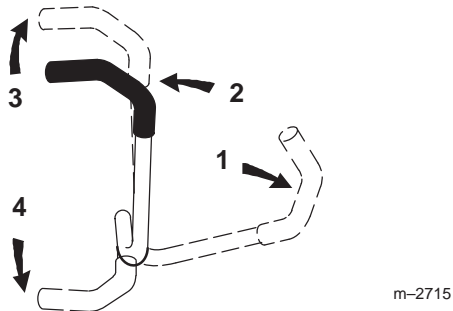

Figure 20
3. To go forward, slowly push the motion control levers forward (Fig. 20).
To go straight, apply equal pressure to both motion control levers (Fig. 20).
To turn, release pressure on the motion control lever toward the direction you want to turn (Fig. 20).
2. To go backward, slowly pull the motion control levers rearward (Fig. 20).